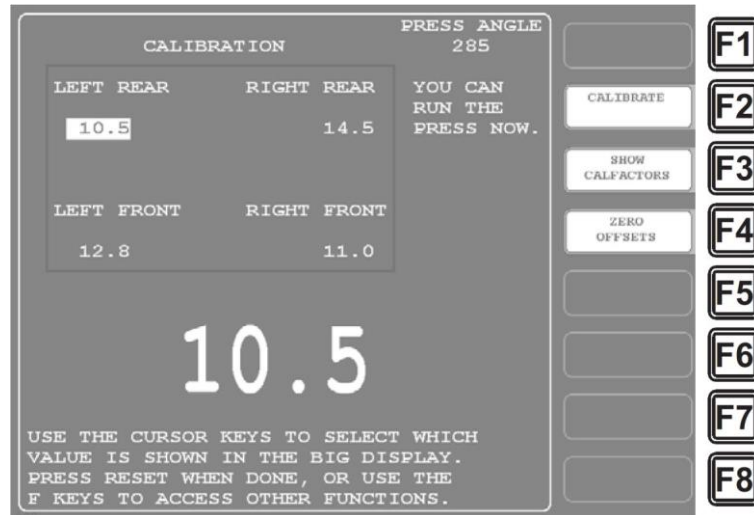

Figure 3-22. Calibration Screen
1. Select CALIBRATION on the Tonnage/Waveform Initialization Menu to display the Calibration screen (see Figure 3-22).